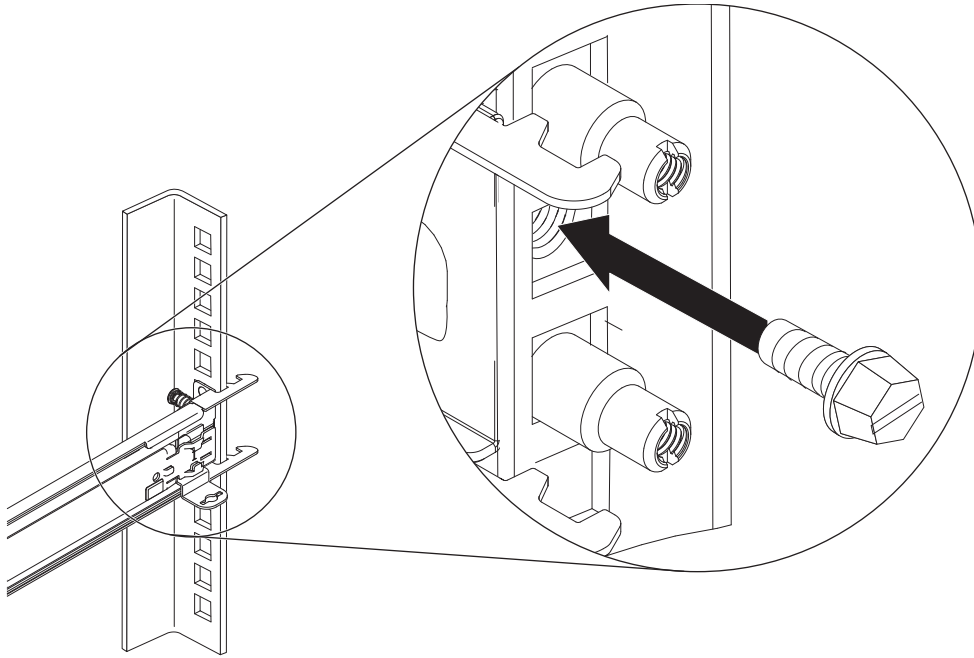

Figure 27. Securing the cable management arm and node for shipping
8. Optional: Secure the cable management arm and the node in the rack for shipping, as shown in Figure 27 on page 33.